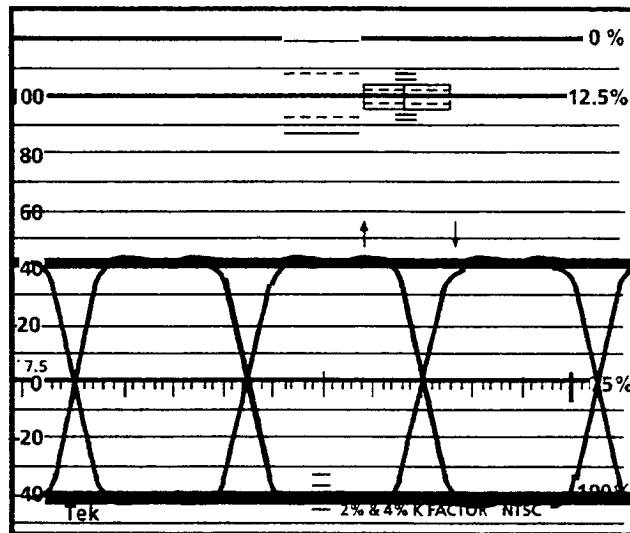

Figure 7-18: Adjusting Eye Pattern Timing
- b. Adjust A3R103 (EYE SWEEP CAL) so that the second Eye crossing (3rd transition) is at the 7th major division mark  $\pm$ one minor division. See Figure 7-18.